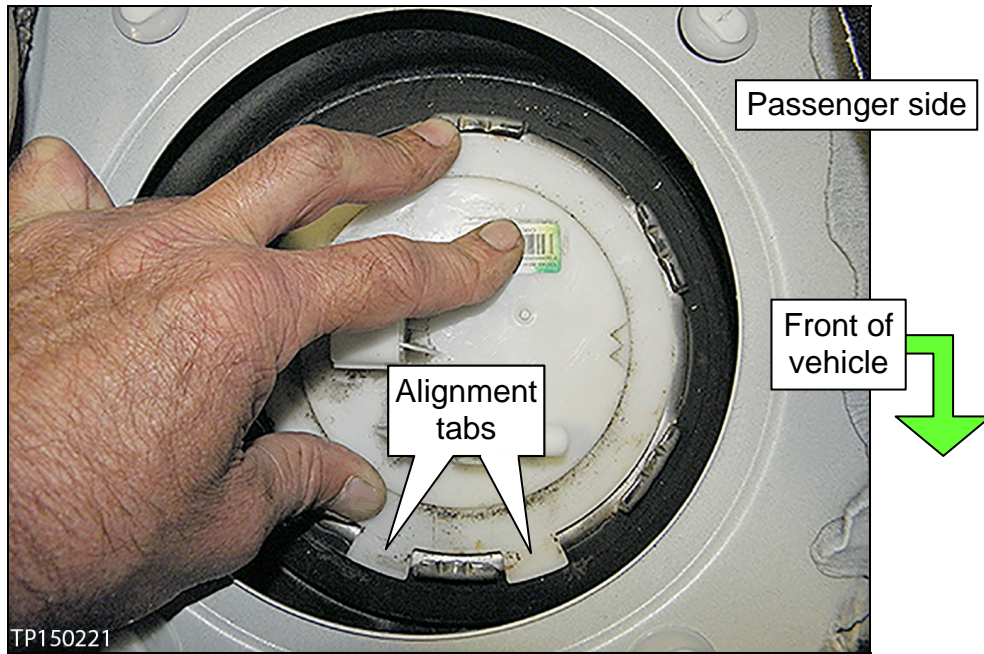

Figure 14
25. Set the alignment tabs in their proper positions (see Figure 14).